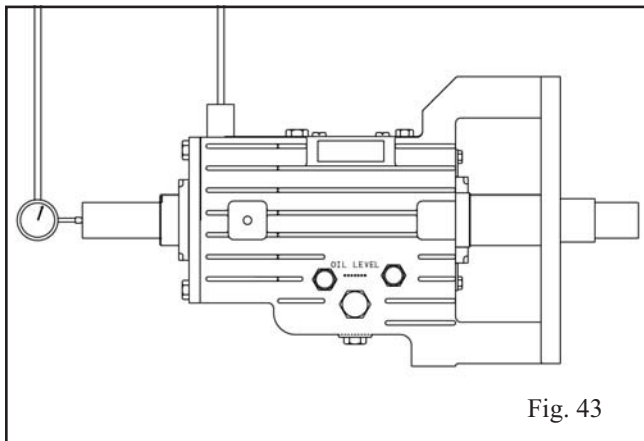

Fig. 43
- a. Mount dial indicator as shown in Fig. 43.
- b. Apply axial force to impeller end of shaft (122) and firmly seat thrust bearing (112) against shoulder in bearing frame (228).
- c. Apply axial force in opposite direction and firmly seat thrust bearing (112) against thrust bearing end cover (109A).